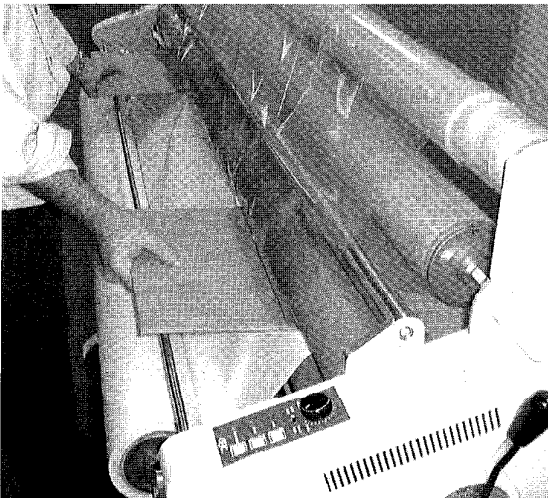

Figure 11
14. With two heavy boards, guide the top and bottom film into the rollers as fat as they will go. be sure to take up any slack on the rewind core. Figure 11.